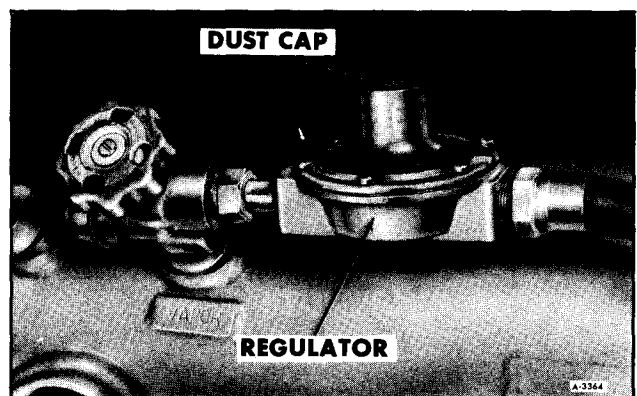

Figure 2—Regulator
The regulator shown in Figure 2 is adjustable and is set at the factory to deliver LP gas at a rate of 11 ± 1 inches of water pressure as measured on a manometer.
1. Remove the dust cap from the top of the regulator (See figure 2).